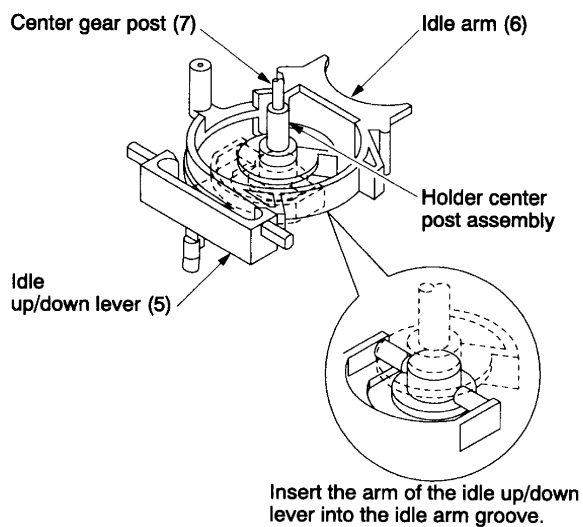

Fig. 2-1-58
- Stop ring (1) is impossible to use again.
- When mounting the parts, take care of the notice shown in Fig. 2-1-58.